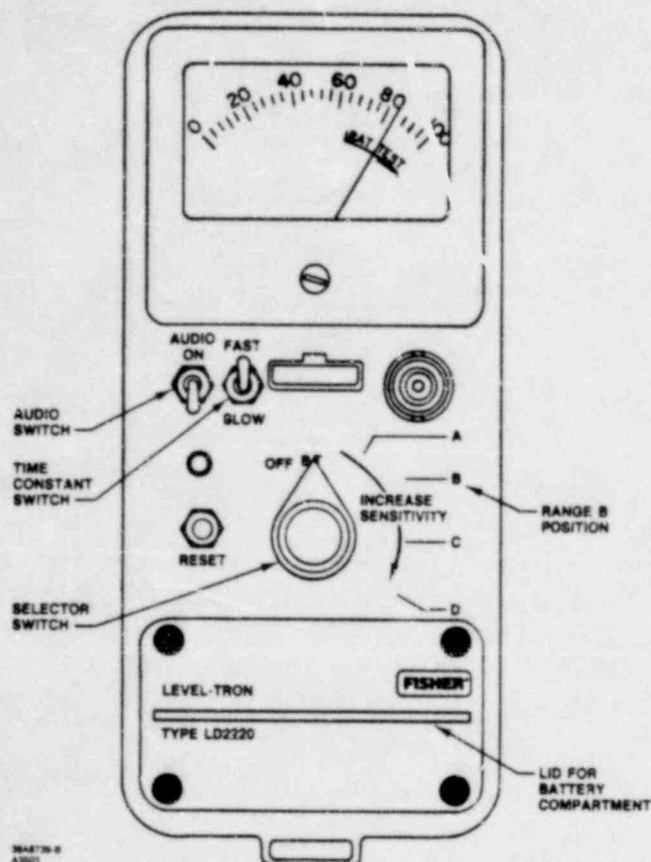

Figure 5. Count Rate Meter Used with Type LD2220 Level Detector
Before attempting to operate the Type LD2220 Level Detector, the batteries should be checked for adequate operation. First turn the selector switch on the count rate meter (key 1, figure 8) to the battery test position as shown in figure 5. Note the meter reading. If the meter reads below the BAT TEST zone on the scale, the batteries are low and should be replaced. If the meter reading is within the BAT TEST zone on the scale, the batteries are adequate for normal operation. Most alkaline battery cells have an average operating life of about 100 hours.
To prepare the level detector for operation, turn the selector switch on the count rate meter (key 1, figure 8) to the range B position that is shown in figure 5. Turn the audio switch to the ON position and the time constant switch to the SLOW position. In free air, a meter reading of less than 6 divisions will be observed and a slow audio rate will be heard.